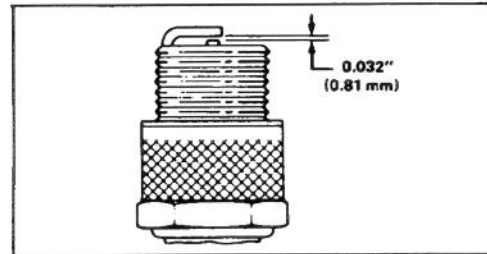

Figure 15
3. Set air gap at 0.032" (0.81 mm) (Fig. 15). Install correctly gapped spark plug and gasket seal. Tighten plug firmly to 10 ft-lb (13.6 N-m).